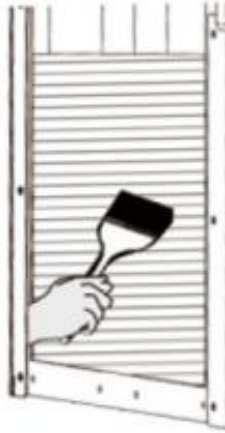

Fig.20
3. Dismantle safety protection parts. Brush dust from condenser surface with dry brush as Fig20